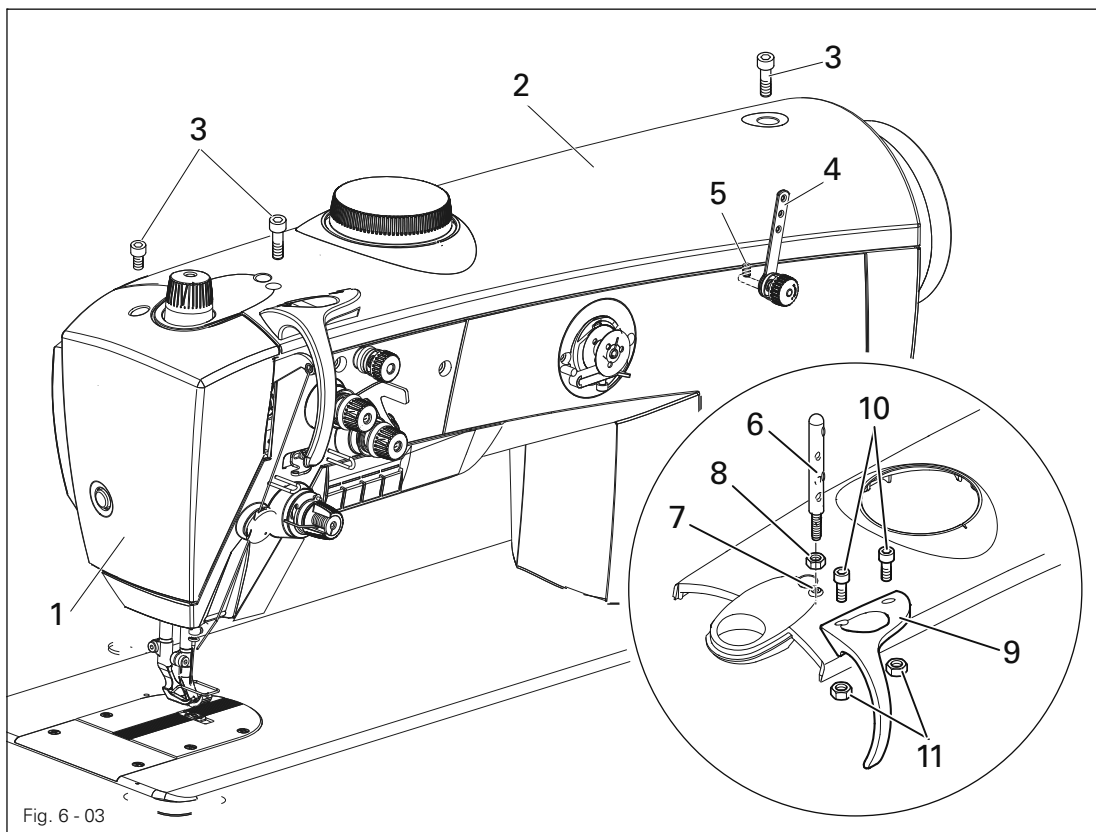

Fig. 6 - 03
- Adjust thread guide 4 (screw 5) as shown in Fig. 6 - 03.